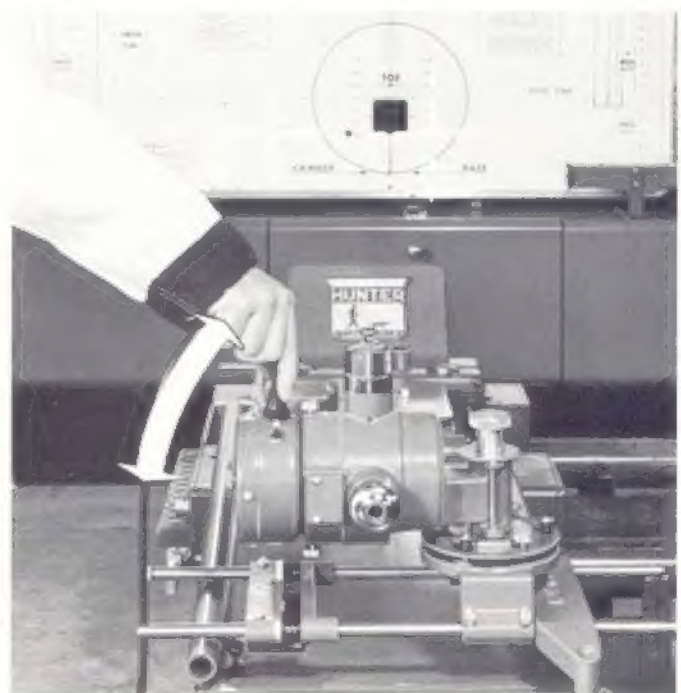

FIGURE 15
7. **TO CHECK ONE OF THE FOUR CAMBER LIGHT BEAMS:** First, place projector on floor or rack, with rods parallel to front charts, and about 6' away (There must be a hard, solid footing for rim buttons). Now, check compensator assembly as in Section 4. above. Plug in the lamp unit and turn on. Point a light beam toward the chart and pencil a **mark** where the light beams **cross**. Slowly and carefully (by gently holding cord) (See Figure 15) move the projector head through a **small arc** so the light beam moves along the mark.